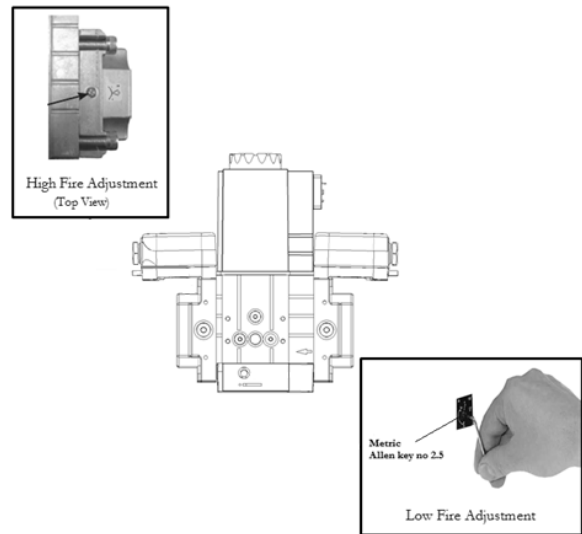

Figure 6: High and Low Fire Adjustments on the Main Gas Valve Regulator
1. Confirm that Oxygen (O₂) level in the boiler's flue gas is within 3.8 to 4.2% at high fire and 4.3 to 4.7% at low fire. Refer to Figure 6 for throttle adjustment.